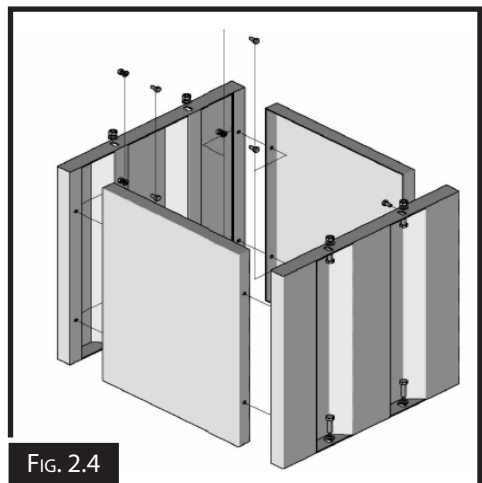

FIG. 2.4
- ☐ Fit the side panels of the machine stand as shown in the diagram Fig. 2.4.